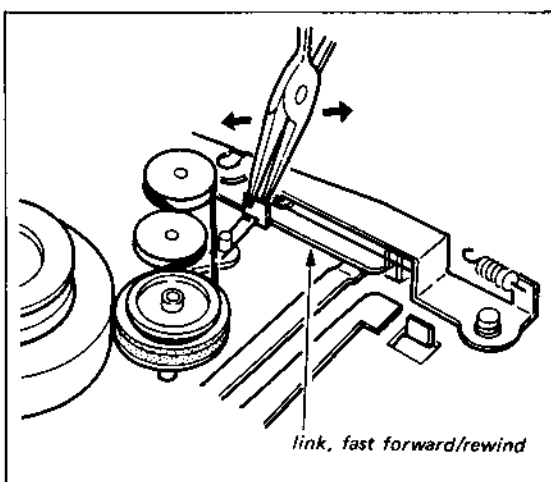

Fig. 3-5 Tab adjustment for pulley "C" height
2. To adjust the pulley height, bend the tab of the Fast Forward/Rewind spring to obtain proper operation as shown in Fig. 3-5.